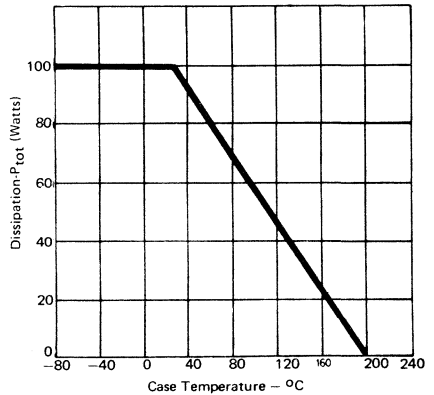

FIGURE 2
2. $V_{CE} = 17$ V. See Fig. 2 for derating.